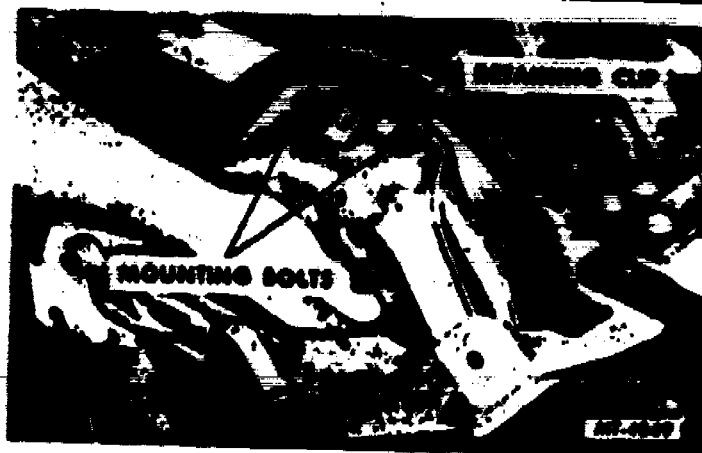

Fig. 13 - Clutch Removal
23. To remove the clutch, install retaining clips between the back plate and the pressure lug or install wood blocks between the clutch fingers and the back plate. This is to hold the clutch compressed to prevent distortion of the clutch cover. Position retaining clip or wood block in place, then loosen clutch mounting bolts only enough to wedge the clip in place. Turn the flywheel one-third turn and install the second clip or block in the same manner. Follow the same procedure for the third clip or block. Remove all clutch mounting bolts and remove clutch and driven disc. See Fig. 13. Some clutches can be compressed by installing three capscrews with flat washers through the back cover and engaging the pressure plate. The three capscrews should be tightened evenly to compress clutch.